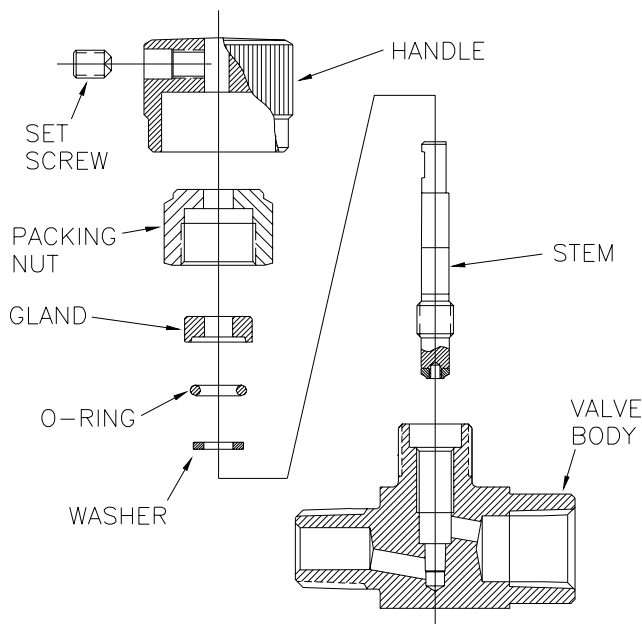

Figure 3: Bar Stock Needle Valve w/O-Ring Packing Exploded View
- B) O-Ring Stem Packing (optional): Apply a small amount of lubricant, as consistent with the valve’s service requirements, to the Stem O-Ring. Refer to Figure 3. Stack the three packing components on the Lower Stem (either “K” or “R”) in the following order, with the first item being placed above the Stem threads. Then proceed to Step 8.